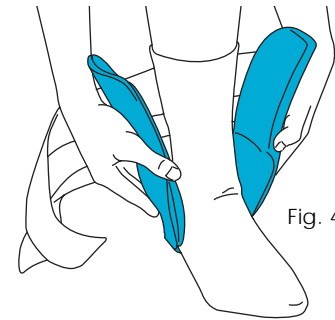

Fig. 4
- Align brace sides with ankle (Fig. 4).